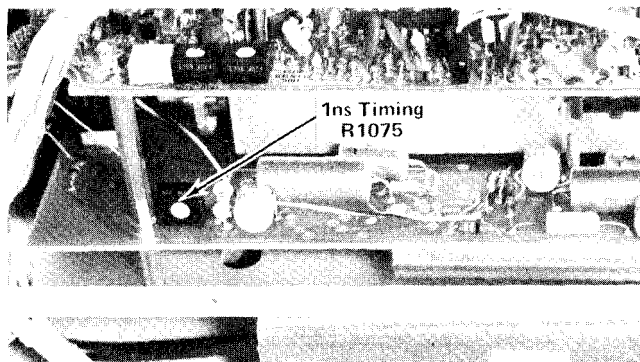

Fig. 5-28. Location of 1 nanosecond timing adjustment.
m. ADJUST-R1075 (see Fig. 5-28) with a low-capacitance screwdriver, for 1 cycle/2 divisions.